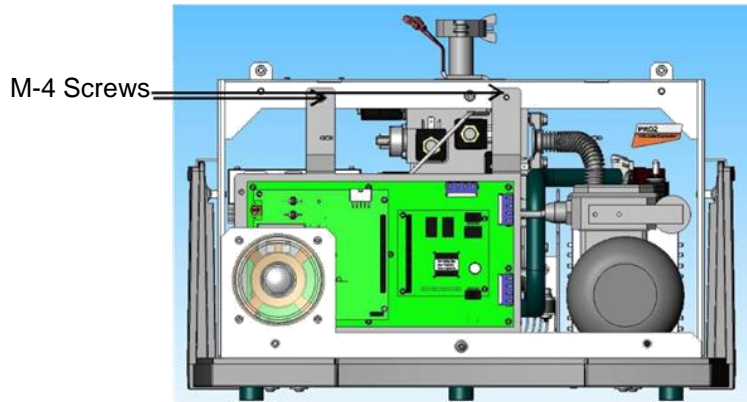

Figure 7: PCB Mounting Tray
13. Remove the M4 screws (“Figure 7: PCB Mounting Tray”) and gently lean the PCB Mounting Tray forward to gain access to the Flapper Box Wiring Harness.
15. Reinstall the M4 screws (“Figure 7: PCB Mounting Tray”).